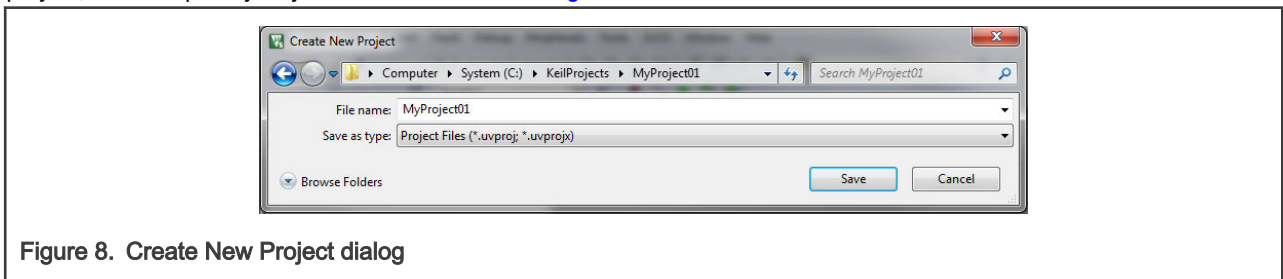

Figure 8. Create New Project dialog
3. Navigate to the folder where you want to create the project, for example C:\KeilProjects\MyProject01. Type the name of the project, for example MyProject01. Click Save. See Figure 8.